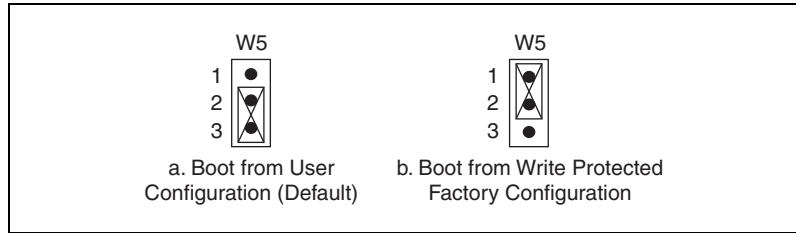

Figure E-1. EEPROM Configuration
2. Change jumper W5 to the position shown in Figure E-1 to restore the factory configuration. Refer to Figure B-1, VXI-MXI-Express Factory Default Jumper Settings, of Appendix B, Advanced Hardware Configuration Settings, for jumper locations.
Figure E-1 shows the configuration settings for EEPROM operation. Use jumper W5 to control whether the NI VXI-8360T/LT controller boots off the factory-configured EEPROM settings or the user-modified settings.
10. Change jumper W5 back to the default position, as shown in Figure E-1.